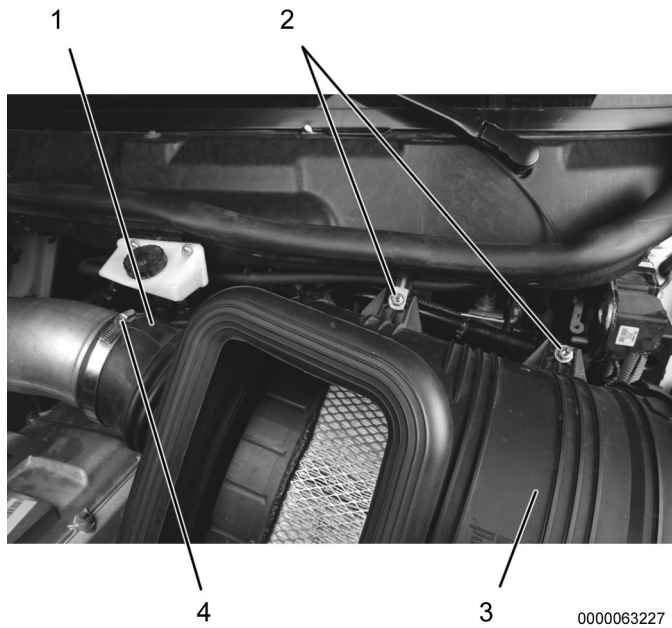

Figure 1. Air Filter Housing.
8. Remove clamp (Figure 1, Item 4) from air filter housing tube (Figure 1, Item 1).
9. Remove two nuts (Figure 1, Item 2) and air filter housing (Figure 1, Item 3) from vehicle and install cap ZTSE4891 on tube.